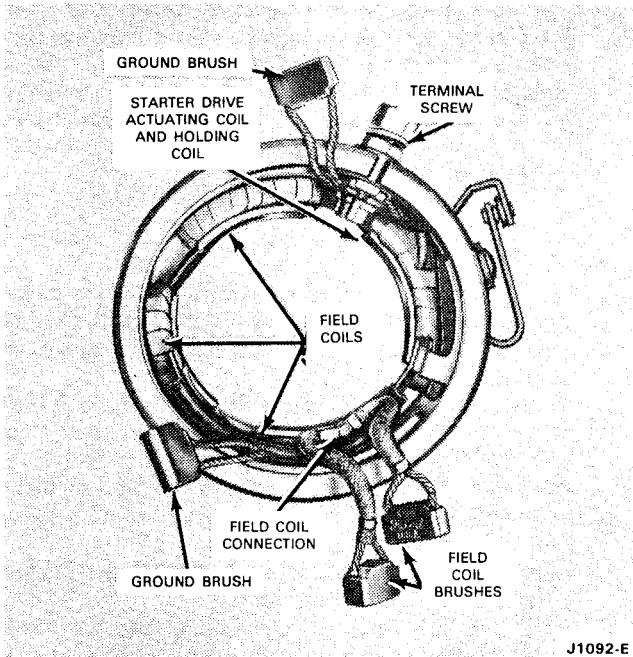

FIG. 12 Field Coil Assembly
1. Install the starter terminal, insulator, washers, and retaining nut in the frame (Fig. 12). Be sure to position the slot in the screw perpendicular to the frame end surface.
6. Position the new insulated field brushes lead on the field coil terminal. Install the clip provided with the brushes to hold the brush lead to the terminal. Solder the lead, clip, and terminal together, using rosin core solder (Fig. 12). Use a 300-watt iron.
8. Position the ground brushes to the starter frame and install the retaining screws (Fig. 12).
10. Position the new insulated field brushes lead on the field coil connection. Position and crimp the clip provided with the brushes to hold the brush lead to the connection. Solder the lead, clip, and connection together, using rosin core solder (Fig. 12). Use a 300-watt iron.